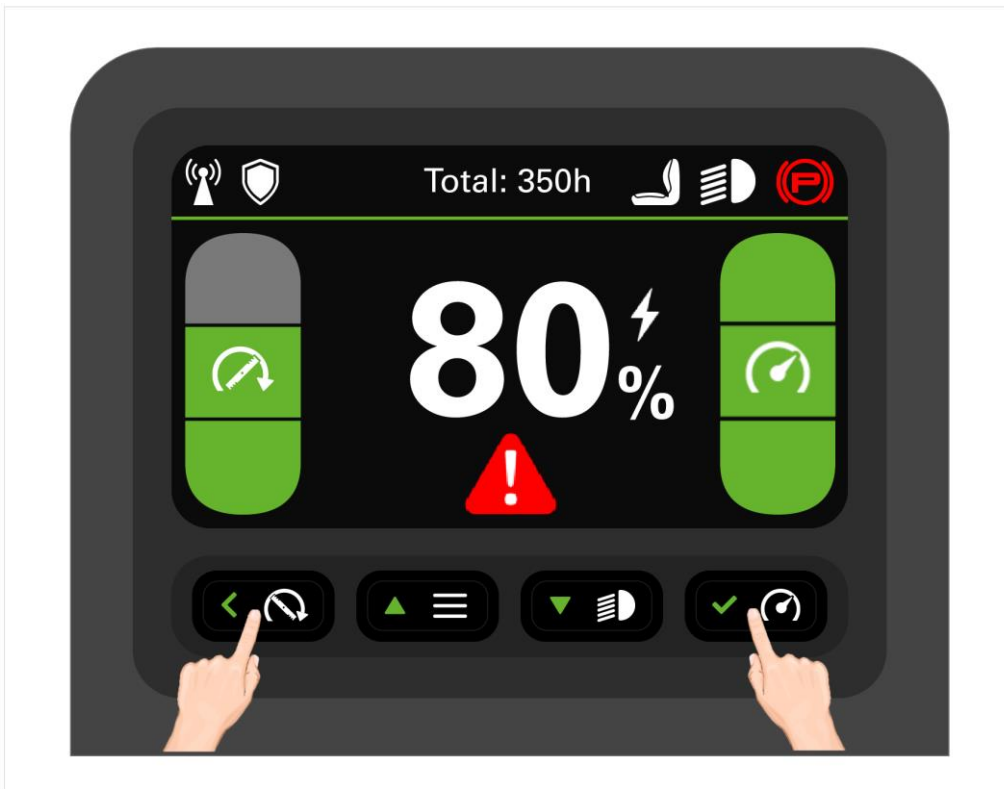

Fig. 8
2. Press and hold the buttons ( and ) for more than 3 seconds, as shown in Fig.8. Then will enter the system management interface.